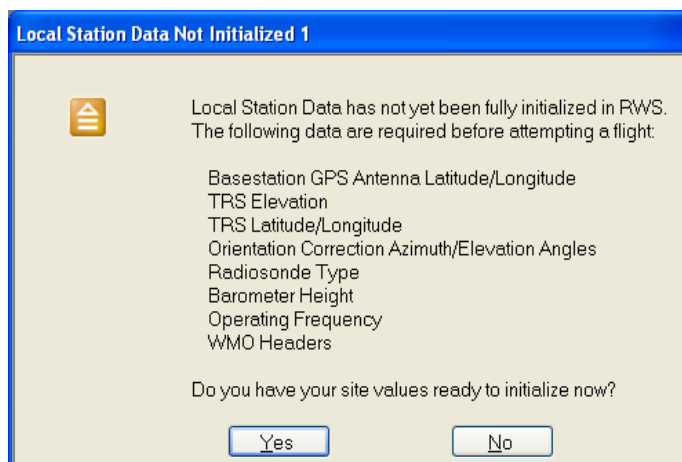

Figure A-15: Local Station Data Not Initialized 1 Window
1. If the *Local Station Data Not Initialized 1* window is displayed (Figure A-15), click **Yes** to open the *Station Data Display* (Figure A-16).